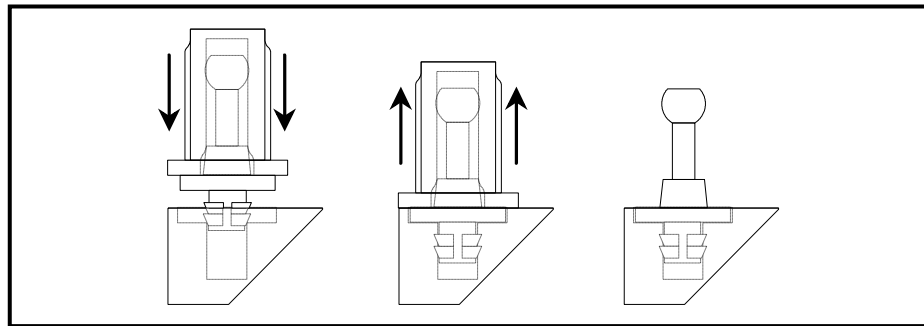

Figure 2.6 - Installing grille pin into ASCENDANT grille frame. Note that after installation, the grille pin flange is flush with the surface of the ...
- Place the exposed end of the grille pin in the open mounting hole. Check to insure that the grille cloth is not trapped between the pin and frame. Use a small hammer and gently tap the new grille pin in place. Then, pull the insertion tool off the new pin and verify that the pin flange is flush with the surface of the grille. Please refer to Figure 2.6.